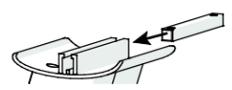

Figure 2
- Slide the rear stabilizer attachment bar **10** into the slot in the bike frame (Figure 2).
- Slide the front stabilizer attachment bar **10** into the slot in the bike frame (Figure 2).